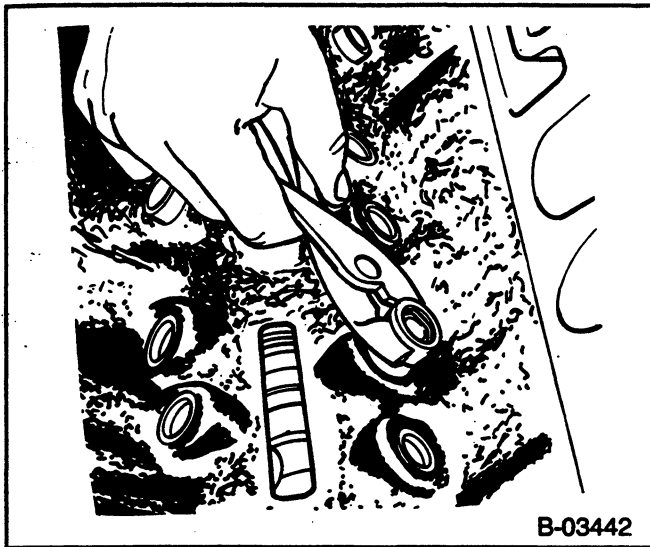

Figure 10—Removing the Hydraulic Lifter
Remove or Disconnect (Figures 10 and 11)
- A stuck hydraulic lifter can be removed using J-3049 (figure 10) or J-9290-01 (figure 11).